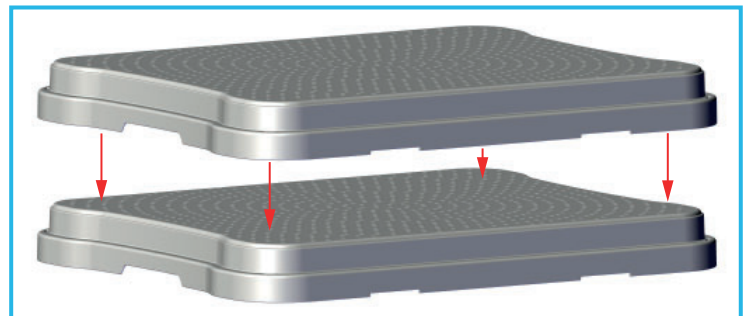

**Figure 1: Insert Support Pillars**
2. Push the four support pillars into position (see Figure 1).
1. Push the four support pillars into position on one of the non-overmoulded step sections (see Figure 1).
2. Push the 8 x support pillars into position, four on each step section (see Figure 1).